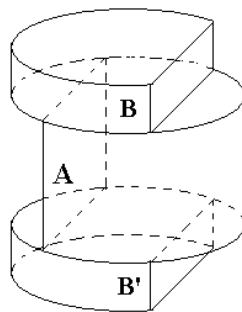

Figure 1
1. Sample: The cylinder-like sample used in present experiment is made of uniform and isotropic glass, as shown in Fig. 1. Where A represents a glass cylinder with a segmental part parallel to its axis cut away, its top and bottom surface are approximately parallel to each other. B and B' are two circular plates made of the same glass material, from each of which a segmental part parallel to the axis was also cut away. The top and bottom surface of each glass plate are not parallel to each other. A, B, and B' are glued together as a whole, as shown in Fig. 1. The refractive index of